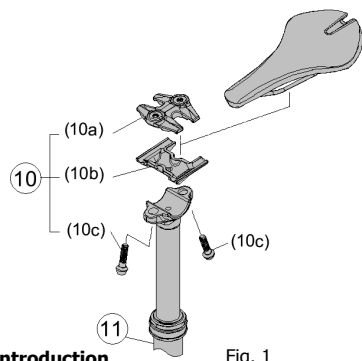

Fig. 1
4. Install Seatpost ⑩ into frame at approximately the correct max saddle height. Turn handlebars 90 degrees and mark where to cut housing. Correct length is when the housing is tight but not binding in this position (you may want extra length for saddle height adjustment). (Fig. 1)
6. Cut cable housing ④ at mark, and install housing ferrule on end.